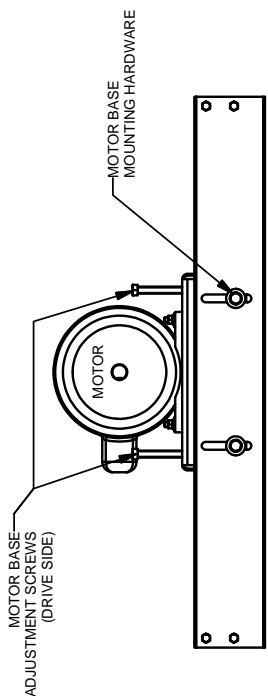

**FIG. 4-3 – ADJUSTABLE MOTOR BASE
1. Secure the nut with a wrench placed through the service hole and loosen the bolt. Do this to all four Hold Down Bolt Assemblies (See Fig. 4-3).